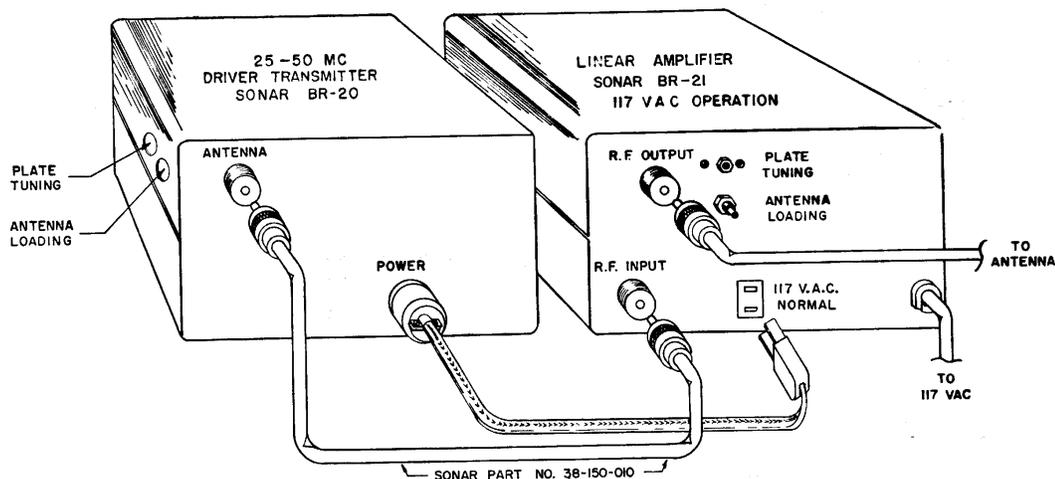

FIG. 1A INSTALLATION DIAGRAM
A. 110 - 120 VAC (See Fig. 1A)
When the BR-21 operates from 110 - 120 VAC a 3 wire AC plug and cord are provided to permit grounding of the chassis to the electrical ground. A 2 foot coaxial cable and two UHF connectors are provided to connect the BR-21 to the driver-transmitter. Fig. 1A illustrates all the cable connections. An auxiliary AC outlet for the BR-20 is provided on the rear of the BR-21.